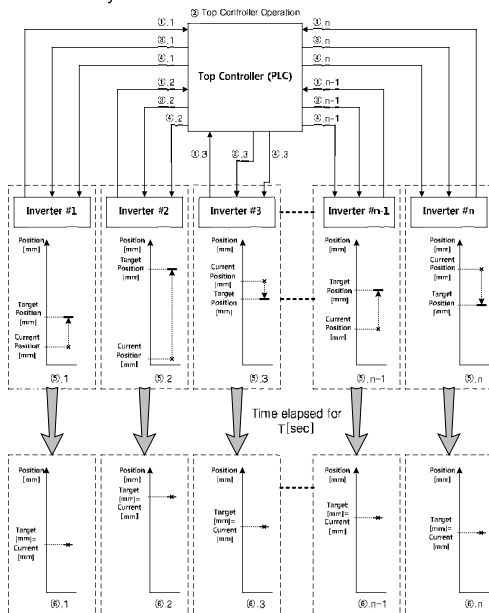

Figure A-1 Network composition of proportional synchronization position control operation mode and How to run
The following steps show how to realize the proportional synchronization position control operating mode according to Figure A-1.
Therefore, Inverter 2 that has the longest distance to reach its target position[mm] from its current position becomes the virtual master as seen in ⑤.2 of Figure A-1. Remaining inverters other than Inverter 2 become the virtual slaves.